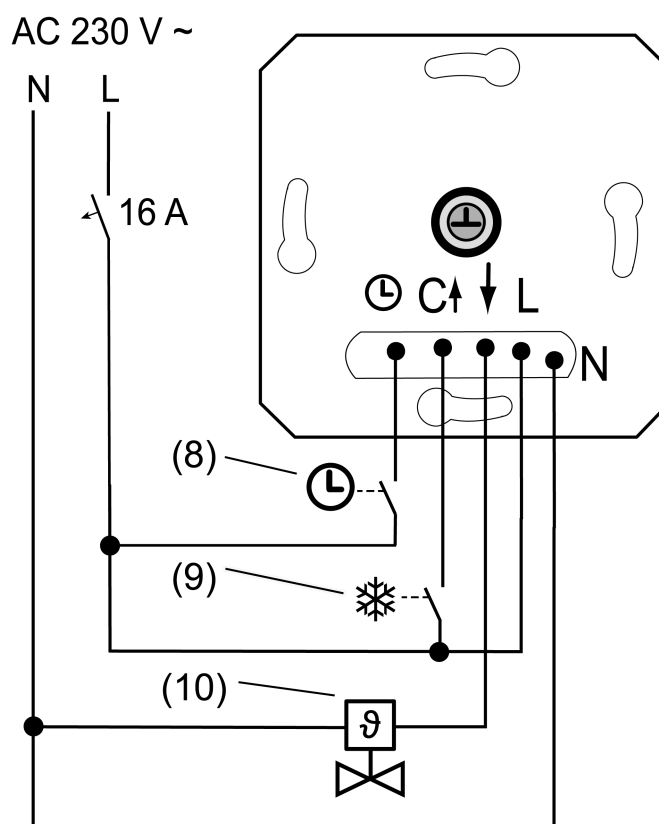
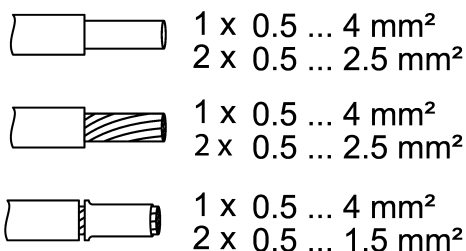

Figure 2: Connection example of the insert
Figure 3: Clampable conductor cross-section
- Connect electrothermal valve drive (10) to insert (1) according to connection diagram (see figure 2). Observe the conductor cross-sections (see figure 3).
- Optionally, connect the lowering mode input ☉ via a switching contact of a central clock (8).